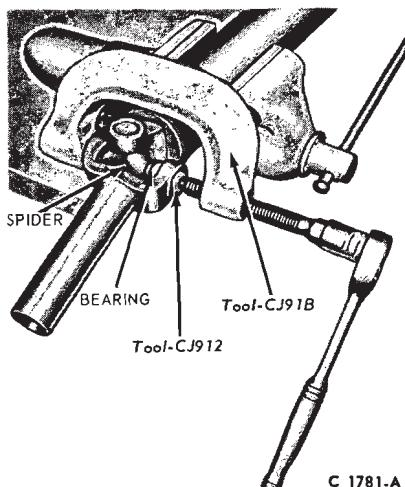

FIG. 6—Removing Universal Joint Bearing.
3. Position the tool shown in Fig. 6 on the shaft and press the bearing out of the slip yoke. If the bearing cannot be pressed all the way out of the yoke, remove it with vise grip or channel lock pliers.